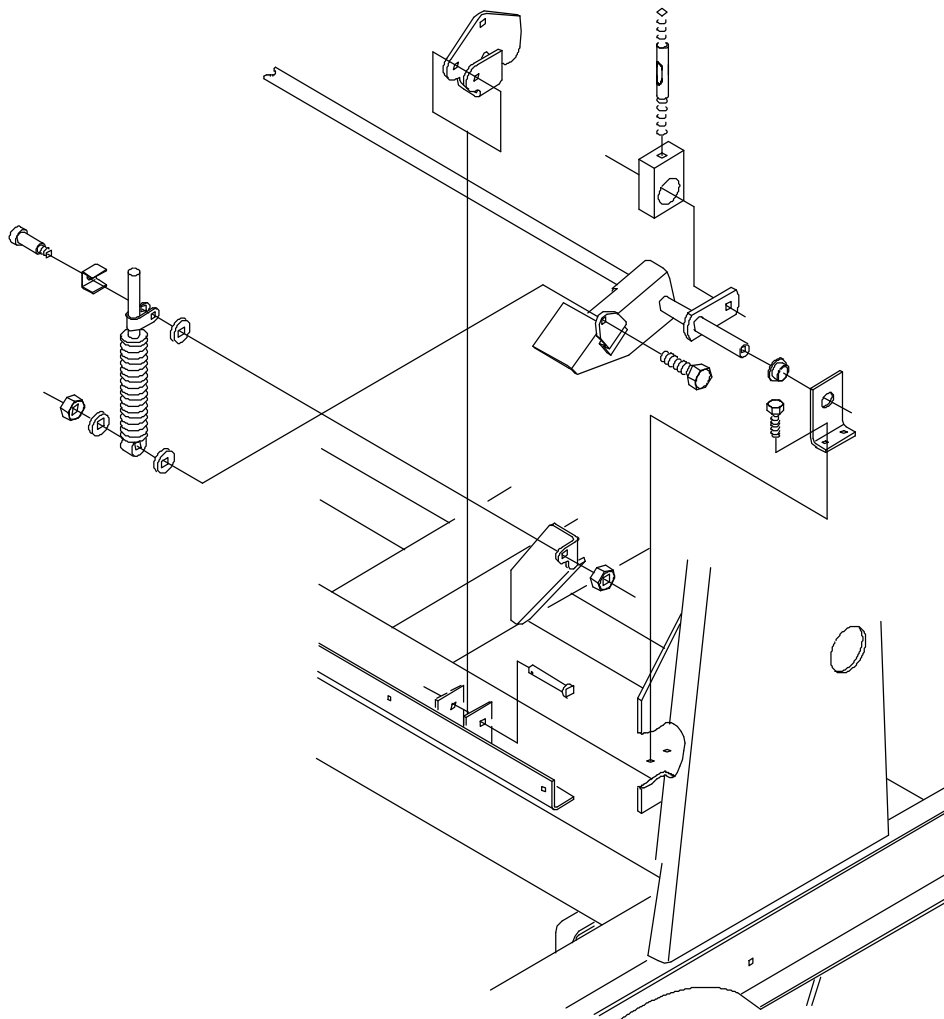

FIG. 2 - Installation of Shock Absorber for Models 355 / 385
3. Locate the shock absorber (attached to directional lever and frame). (Refer to FIG. 2).